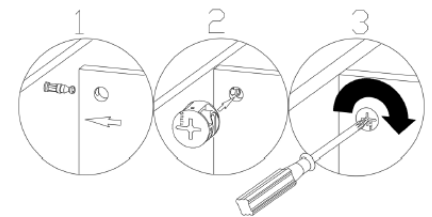

Figure 4
6.Install locking lugs (e) into designated holes, and then lock them with a screwdriver. (Figure 4)